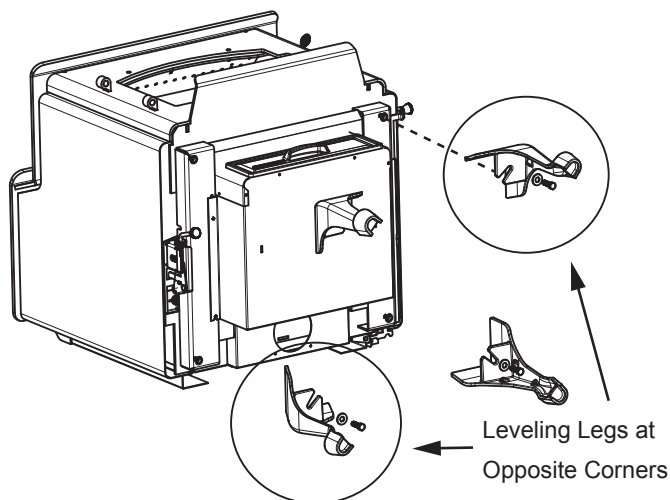

Figure 19.1
4. Install legs onto mounting brackets making sure the legs are up against the bracket and secure with bolts and washers using a 3/8 open end wrench (**Figure 19.1 on page 19**).
5. Install leveling bolts into 2 legs; these leveling legs should be in opposite corners (**Figure 19.1 on page 19**).